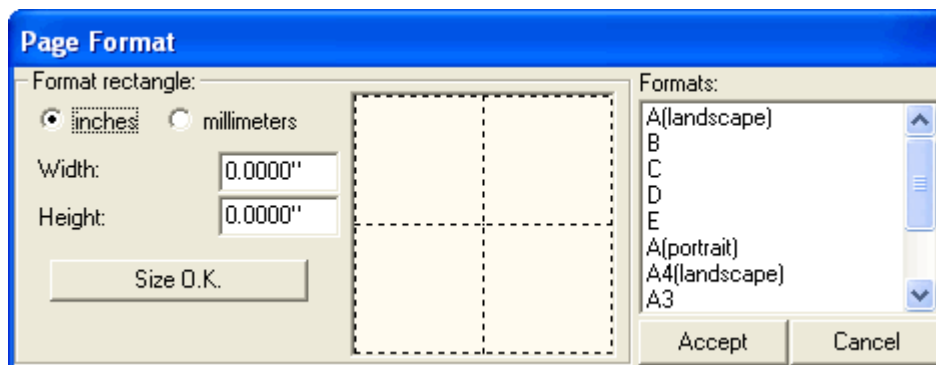

Fig 4.4
- iii. Select  Define Page Function Tool (by default appears selected). The Page format window appears as shown in Fig.4.4: